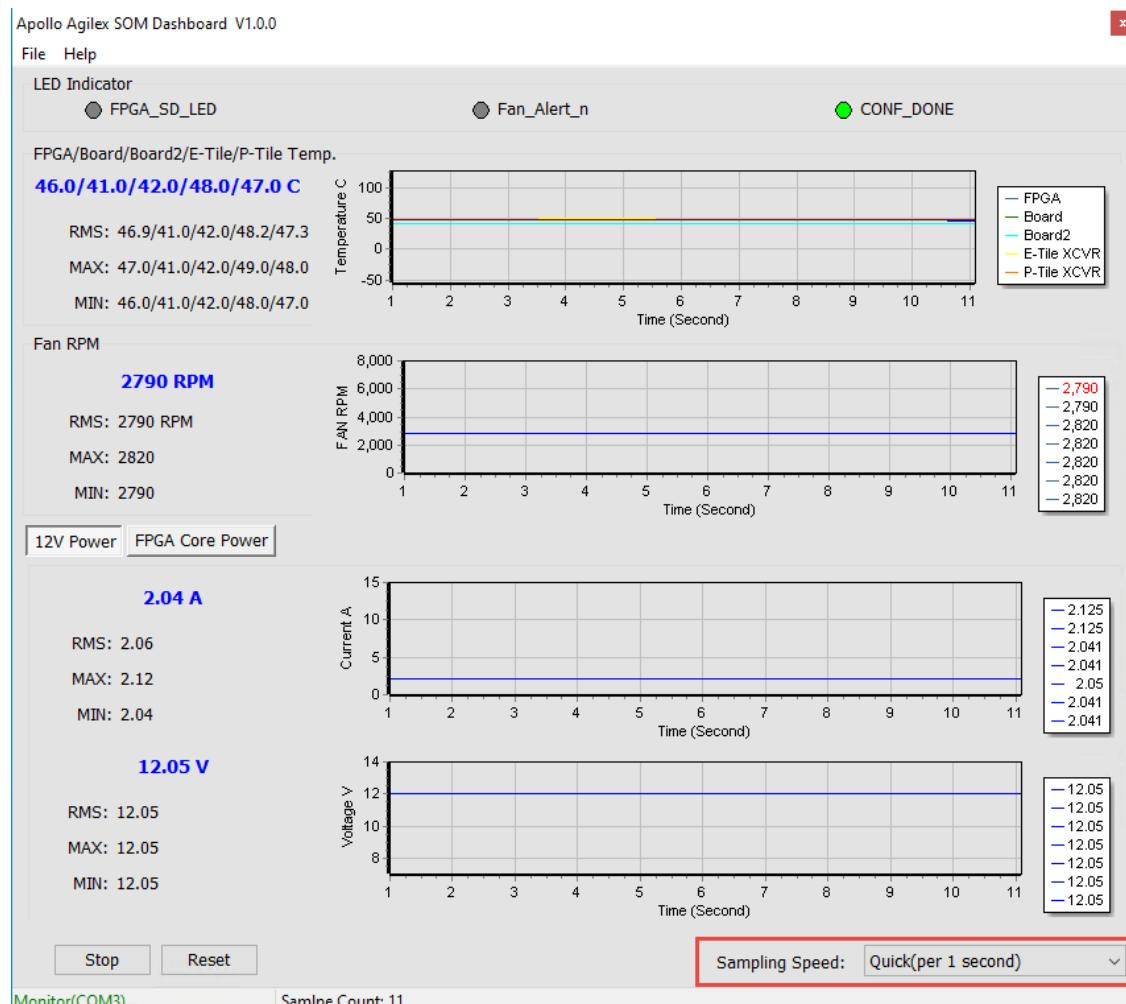

Figure 3-9 Sampling Speed section
- **Sampling Speed:** It can change interval time that the Dashboard GUI sample the board status. Users can adjust it to 1s/10s/1min/Full Speed (0.1s) to sample the board status, as shown in **Figure 3-9** and **Figure 3-10**.